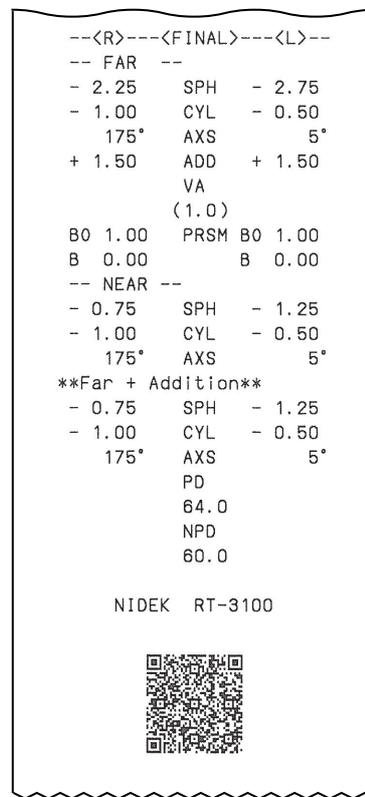

Figure 2
- When the QR code parameter is set to “QR2”, all entered data and QR code of final data are printed. See Figure 2.